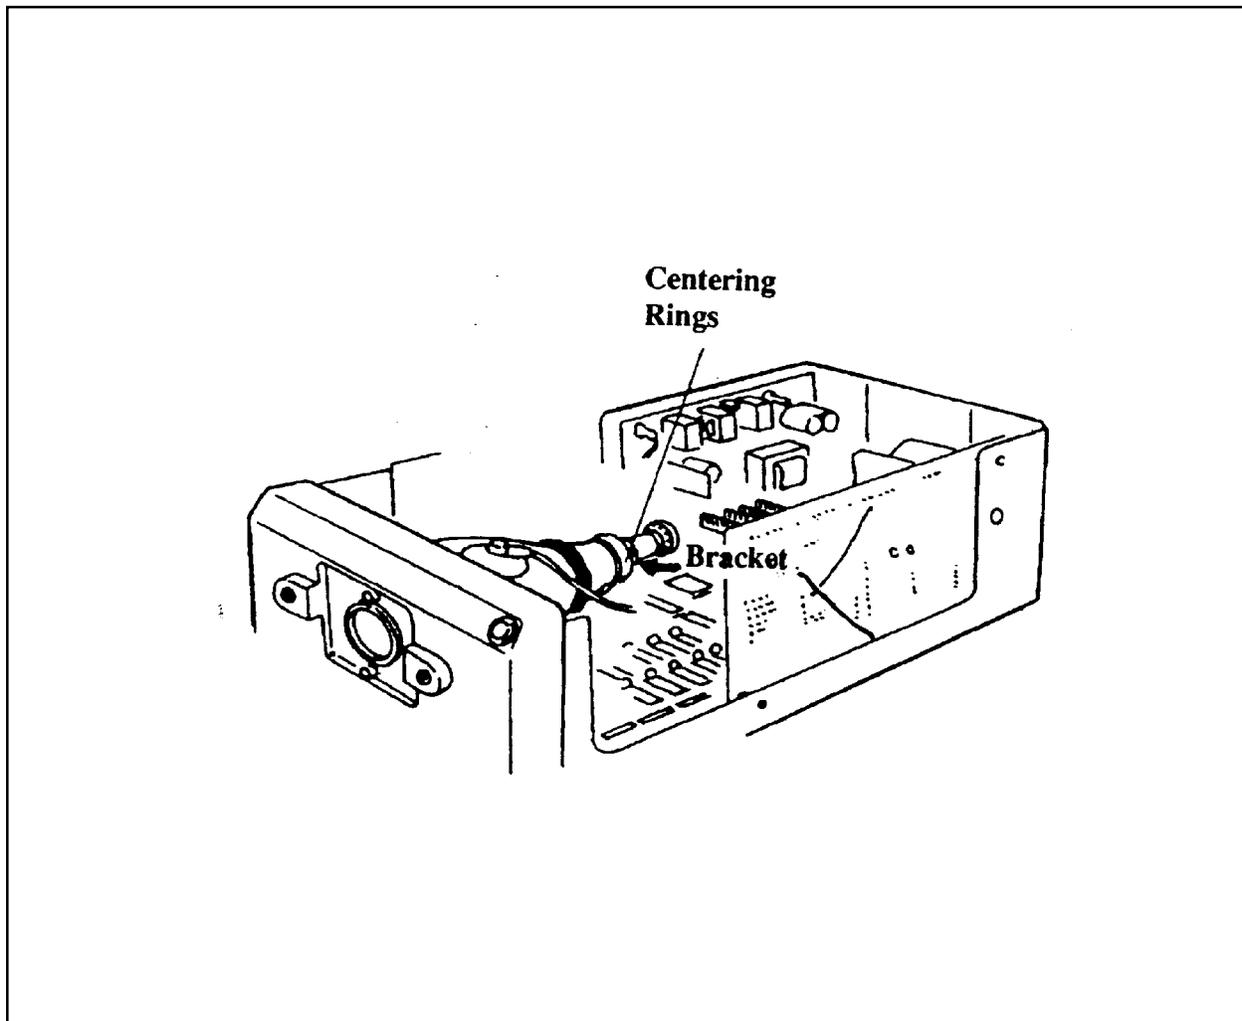

Figure 5-3. Centering Rings
7. If the image is tilted, remove the 108 Adapter Collimation Master (#12994) and Final Assembly Alignment Gauge (#12979) loosen the bracket on the CRT tube, then turn the yoke to square the image with the face of the CRT (Figure 5-3).
1. Cut the hot melt securing the two centering rings on the yoke of the CRT (Figure 5-3).